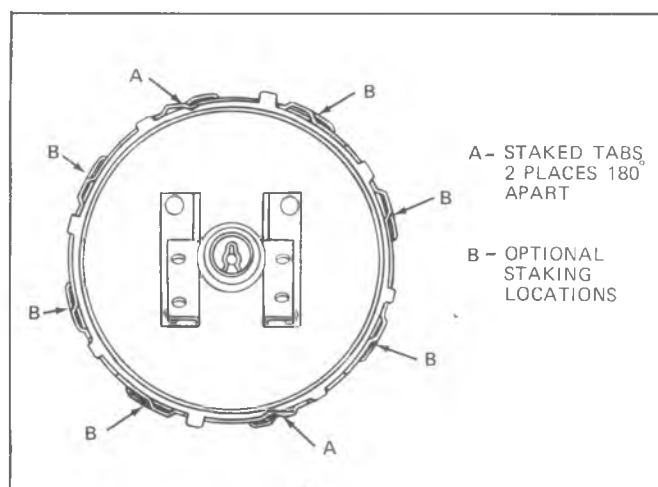

Fig. 5-14C--Housing Locking Tabs
10. Using a 1/8" diameter rod (or similar tool), stake the front and rear housing in two places 180° apart (figs. 5-14C and 5-15C).